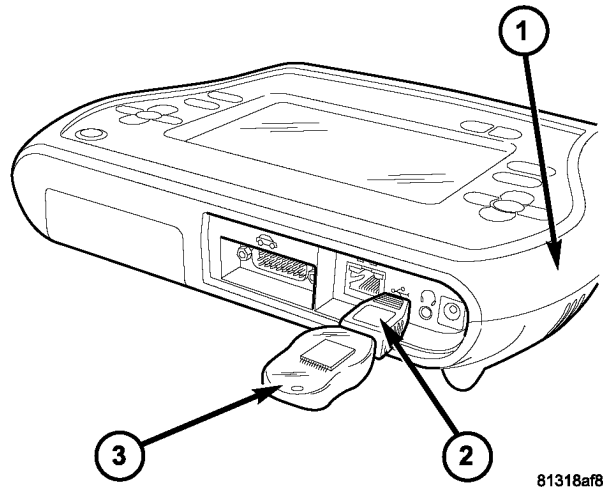

Fig. 1 USB KEY, GENDER CHANGER, AND StarSCAN®; TOOL
7. With the StarSCAN® powered OFF, connect the USB Key and Gender Changer to the StarSCAN® USB port (Fig. 1).